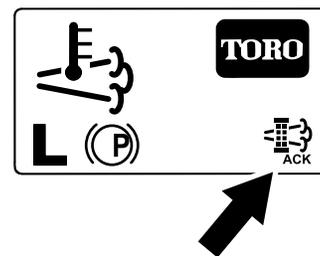

Figure 85
8. The InfoCenter displays the home screen and the regeneration acknowledge icon (Figure 85) appears in the lower right corner of the screen as the regeneration processes.